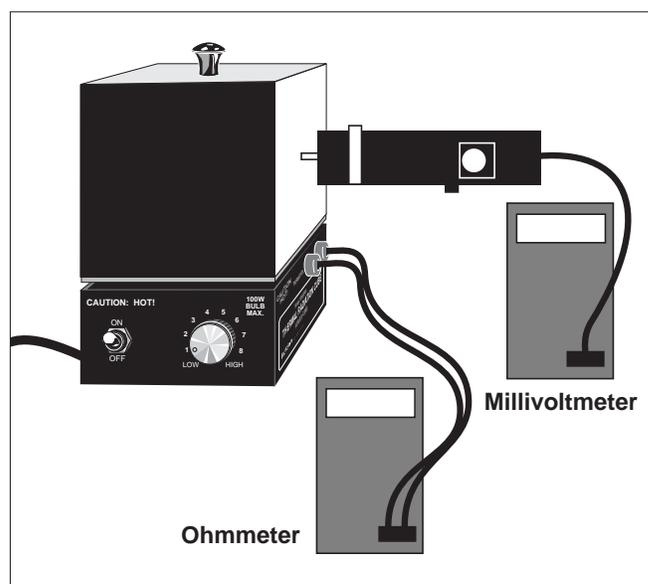

Figure 1.1 Equipment Setup
- ① Connect the Ohmmeter and Millivoltmeter as shown in Figure 1.1.
- ② Turn on the Thermal Radiation Cube and set the power switch to “HIGH”. Keep an eye on the ohmmeter reading. When it gets down to about 40 k $\Omega$ , reset the power switch to 5.0. (If the cube is preheated, just set the switch to 5.0.)
- ③ When the cube reaches thermal equilibrium—the ohmmeter reading will fluctuate around a relatively fixed value—use the Radiation Sensor to measure the radiation emitted from each of the four surfaces of the cube. Place the Sensor so that the posts on its end are in contact with the cube surface (this ensures that the distance of the measurement is the same for all surfaces). Record your measurements in the appropriate table on the following page. Also measure and record the resistance of the thermistor. Use the table on the base of the cube to determine the corresponding temperature.
- ④ Increase the power switch setting, first to 6.5, then to 8.0, then to “HIGH”. At each setting, wait for the cube to reach thermal equilibrium, then repeat the measurements of step 1 and record your results in the appropriate table.